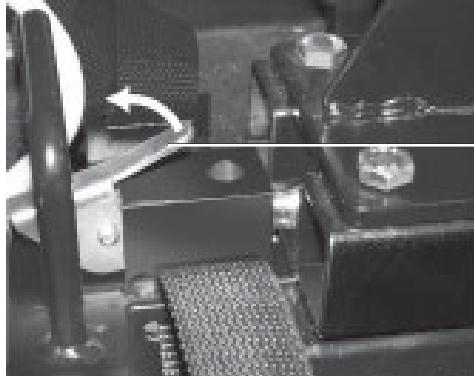

Figure 22. Frame Lock
9. Pull the frame lock lever all the way back. See figure 22.